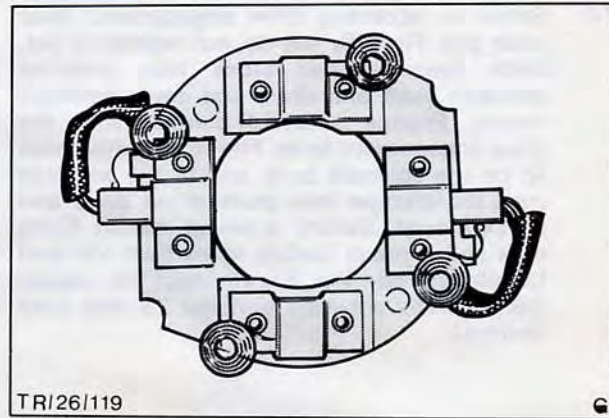

Fig. 75. Brush plate assembly
21. Commence re-assembly of brush plate. Slide earth brushes into their holder and wedge the springs against sides of the brushes, Fig. 75.